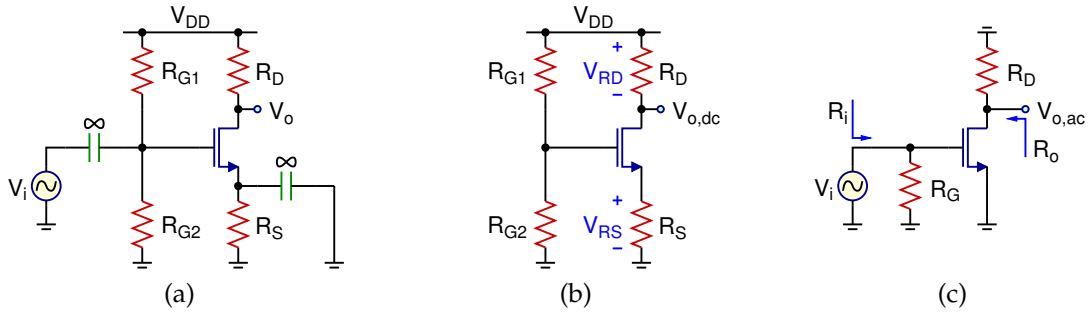
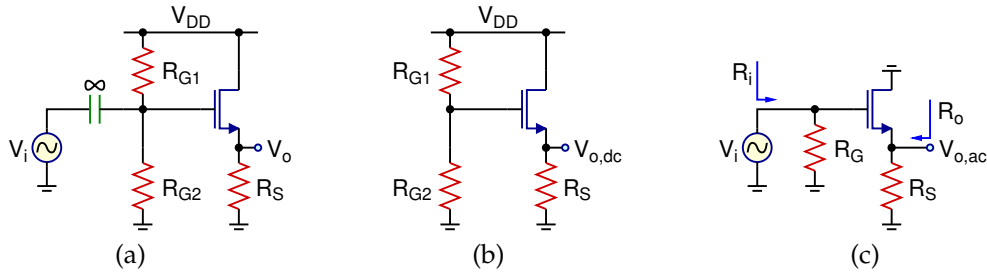

Figure 3: (a) NMOS Common-Source Configuration (b) DC equivalent (c) AC equivalent
Figure 5: (a) NMOS Common-Drain (Source Follower) Configuration (b) DC equivalent (c) AC equivalent
Figures 3 and 4 show the common-source configurations for NMOS and PMOS transistors, respectively. AC analysis of this configuration yields
Based on the typical specifications, design procedure for the common-source amplifiers in Figs. 3 and 4 can be given as follows:
Figures 5 and 6 show the common-drain configurations (also known as source follower) for NMOS and PMOS transistors, respectively. DC analysis of this configuration can be performed using the same equations given in (1) and (2), whereas AC analysis yields
1. Using the 2N7000G transistor, design the common-source amplifier in Fig. 3(a) with the following specifications:
2. Using 2N7000G and the same  $R_{G1}$ ,  $R_{G2}$  and  $R_S$  values from your common-source amplifier, calculate  $A_v$ ,  $R_i$  and  $R_o$  for the source follower in Fig. 5.
1. Draw the common-source amplifier schematic in Fig. 3(a) using the calculated component values and 2N7000G transistor.
2. Draw the source follower schematic in Fig. 5(a) using the calculated component values and 2N7000G transistor.
1. Build the common-source amplifier in Fig. 3(a) using the simulated component values and 2N7000G transistor.
2. Build the source follower circuit in Fig. 5(a) using the simulated component values and 2N7000G transistor.
1. Build the common-source amplifier in Fig. 3(a) and the source follower in Fig. 5(a) on your breadboard and bring it to your lab session.
4. For the common-source amplifier in Fig. 3(a):
5. For the source follower in Fig. 5(a):